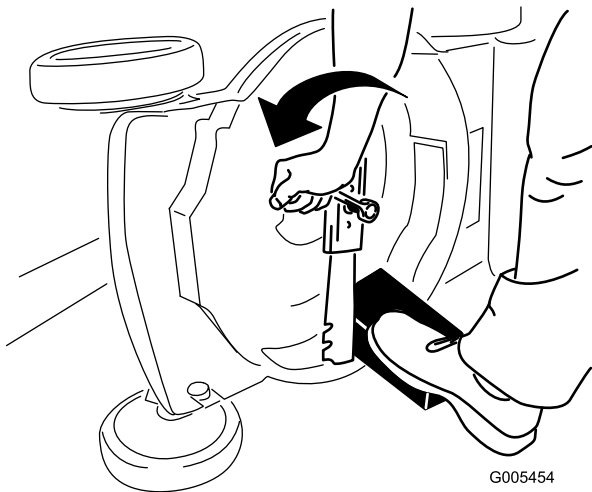

Figure 49
- Use a block of wood to hold the blade steady (Figure 49).
- Remove the blade, saving all mounting hardware (Figure 49).